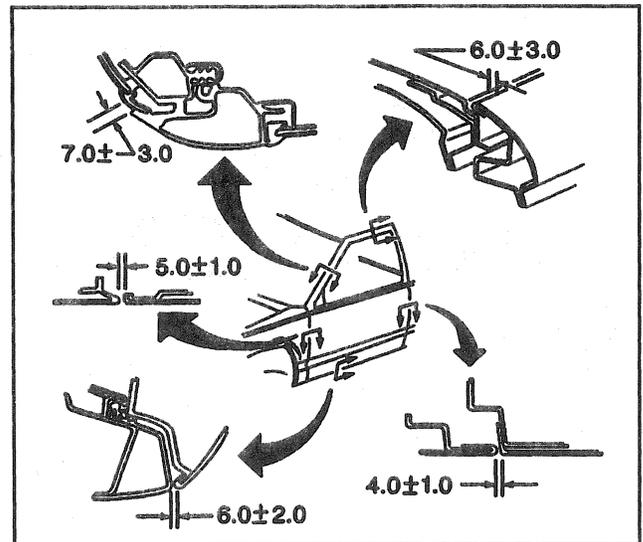

Figure 22—Door Adjustment Specifications
- Gap between the rocker panel and the door to the specifications shown in Figure 22.